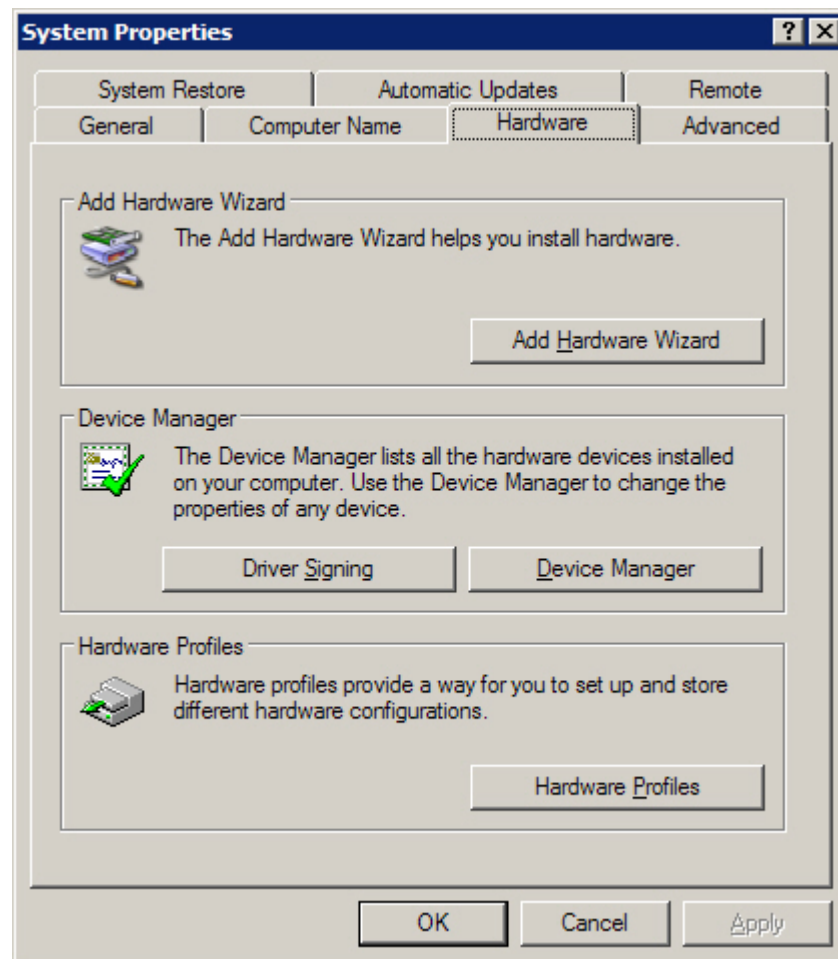

Figure 2. Hardware tab
2. Click the **Hardware** tab (see Figure 2).